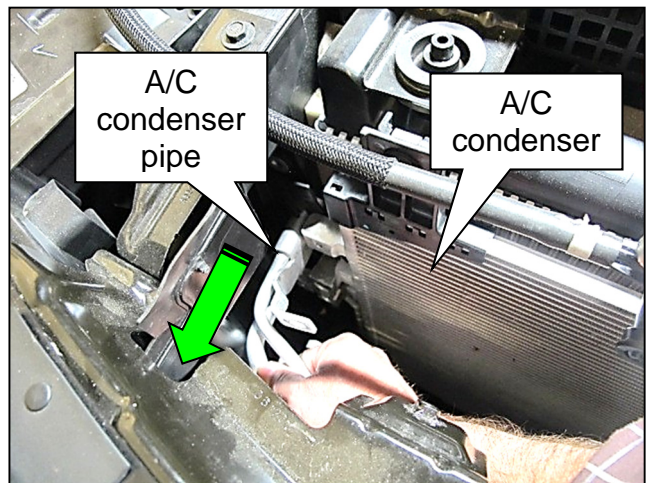

Figure 10
10. Disconnect the A/C condenser pipe from the A/C condenser (Figure 10).